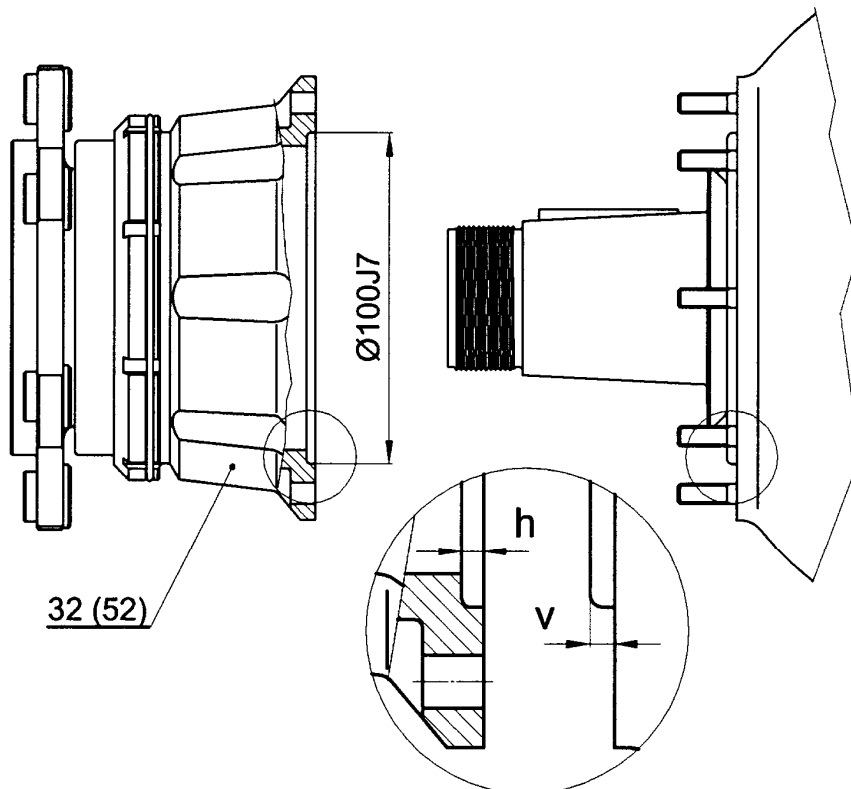

Fig.209 Pressure oil distributor installation– gasket thickness determination
- (1) Before the installation, measure on casing of the distributor (32) the depth of the centering diameter ($\varnothing 100$ J7) and height of bearing over the dividing cover plane of the engine – (see fig.209). The thickness of the paper sealing calculate from the formula:
- (1) Before the installation, measure on casing of the distributor (52) the depth of the centering diameter ($\varnothing 100$ J7) and height of bearing over the dividing cover plane of the engine – (see fig.209). The thickness of the paper sealing calculate from the formula: